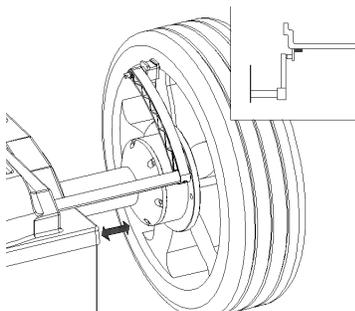

FIGURE 10
- **Arm extension** on the measurement arm is required (see *Fig. 10*).